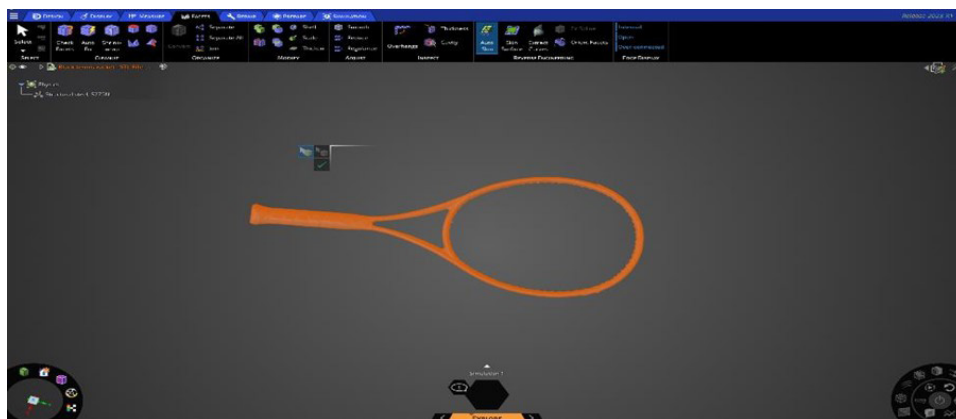

Figure 8: Converting the tennis racket scan data to CAD geometry using the “Auto Skin” tool.
2. Select the “Auto Skin” tool, shown in Figure 8.